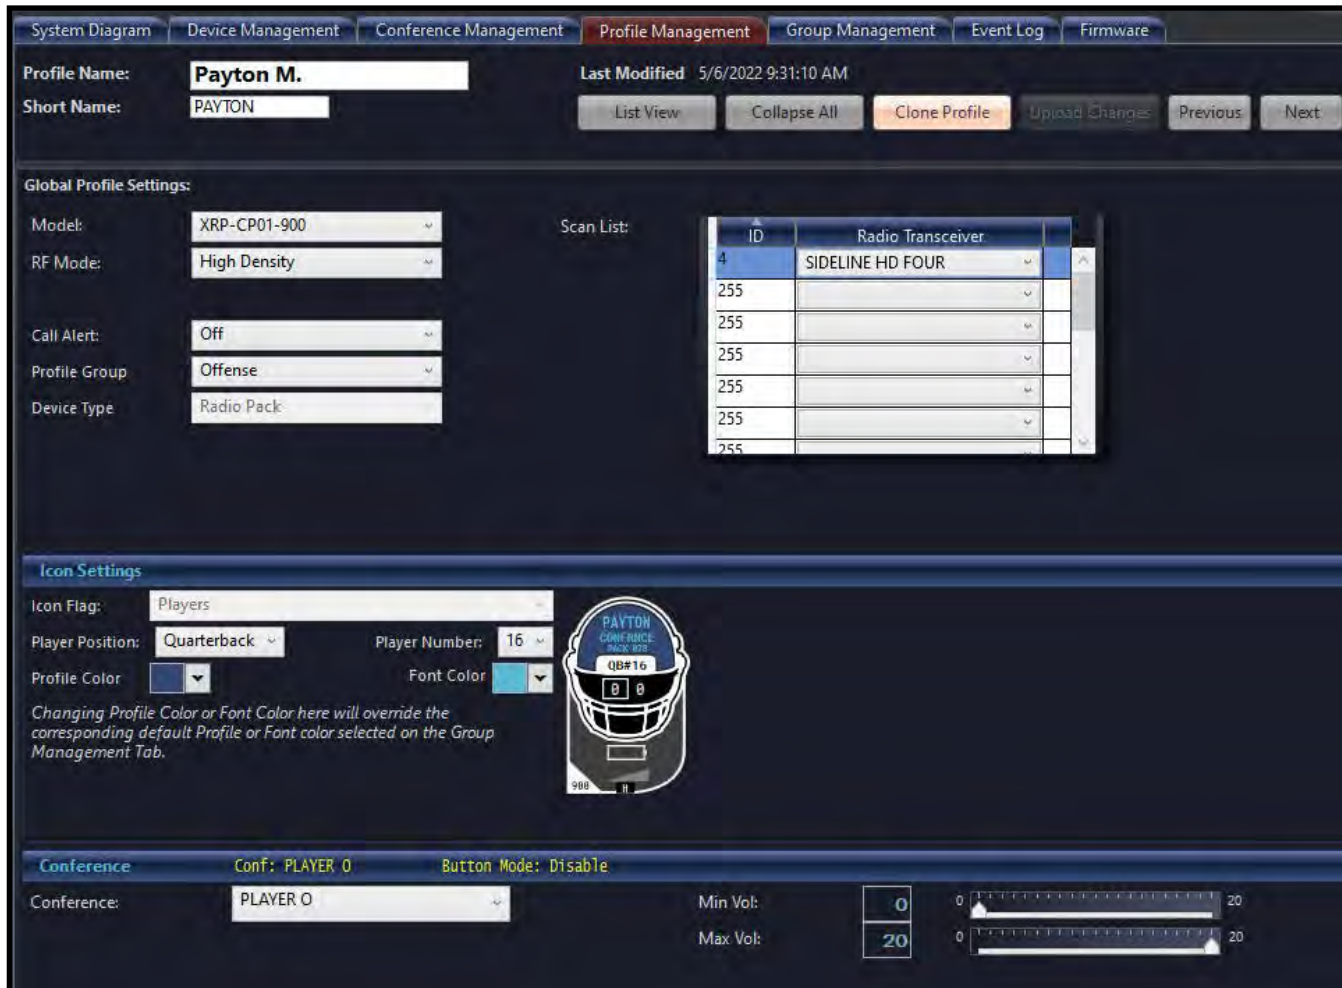

Figure 114: CoachComm X-System Player Profile Example
3. Customize the Player Position and Number in the Icon Settings. See Figure 114 for an example of an CoachComm X-System Player Profile.